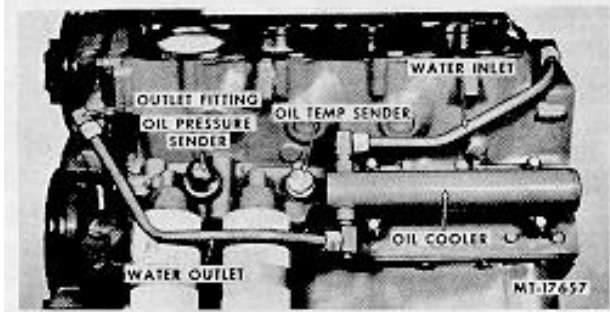

Fig. 39 Oil Cooler Removal
41. Remove oil cooler lines and oil cooler with "O" rings (Fig. 39). Also remove outlet fitting to allow the removal of the front cover capscREW.